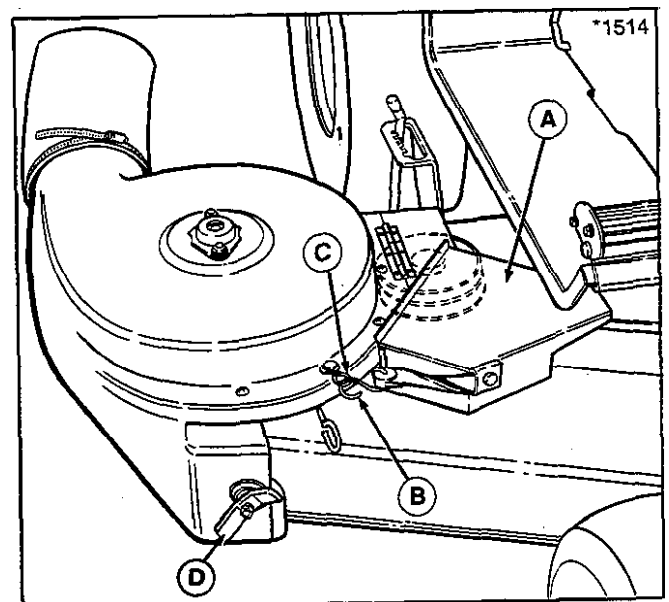

Figure 13.
- Align the notch (G, figure 11) with **spacer** on arbor bracket. Align spacer (C) with notch (C, figure 2) on arbor bracket. Slide the assembly into place as shown in figure 13, while aligning front notch between cup and wing nut (D, figure 13). Tighten wing nut.
d. Rotate the pivoting cover (A, figure 13) into place and attach the hook (B) to the clip (C) on the housing.